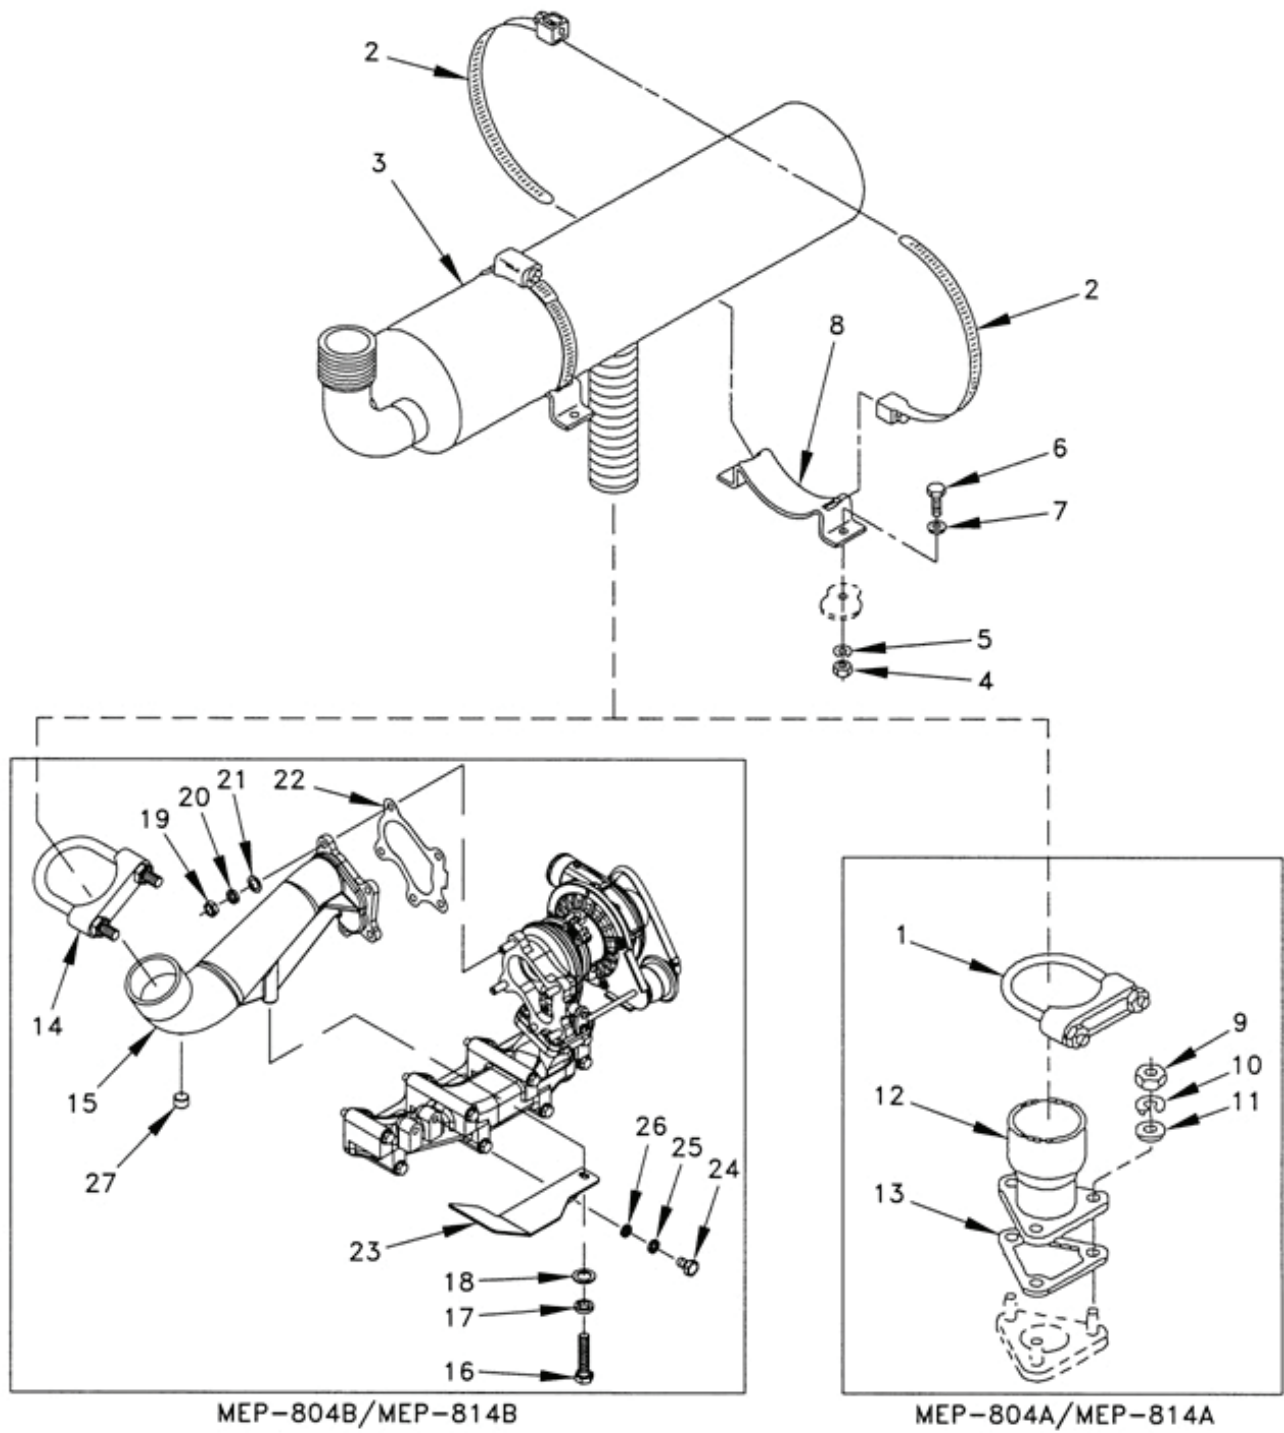

Figure 2-21. Muffler and Exhaust Pipe.
- c. Loosen nuts and remove clamp (1, Figure 2-21).
- d. Open bands (2), separate muffler (3) and exhaust and adapter (12), and remove muffler (3) from generator set.
- e. Remove nuts (4), lock washers (5), bolts (6), washers (7), and muffler supports (8). Discard lock washers (5).
- f. Remove nuts (9), lock washers (10), washers (11), exhaust adapter (12), and gasket (13). Discard lock washers (10).
- a. Install muffler supports (8, Figure 2-21) with bolts (6), nuts (4), new lock washers (5), and washers (7).
- b. Install exhaust adapter (12) and gasket (13) and secure with nuts (9), new lock washers (10), and washers (11).
- c. Couple muffler (3) to exhaust adapter (12) with clamp (1). Do not tighten clamp.
- d. Secure muffler (3) to supports (8) with bands (2).
- e. Tighten clamp (1).
- c. Loosen bolts and remove clamp (14, Figure 2-21).
- d. Open bands (2), separate muffler (3) and exhaust manifold (15), and remove muffler (3) from generator set.
- f. Remove screw (16), lock washer (17), and washer (18). Discard lock washer (17).
- g. Remove nuts (19), lock washers (20), washers (21), exhaust manifold (15), and gasket (22). Discard lock washers (20).
- h. Remove screws (24), lock washers (25), washers (26), and manifold bracket (23). Discard lock washers (25).
- i. Remove plug (27) from exhaust manifold, if necessary.
- b. Install manifold bracket (23) with screws (24), new lock washers (25), and washers (26).
- c. Install plug (27) into exhaust manifold, if necessary.
- d. Install exhaust manifold (15) and gasket (22) and secure loosely with nuts (19), new lock washers (20), and washers (21).
- e. Loosely install screw (16), new lock washer (17), and washer (18).
- f. Tighten nuts (19) and screw (16).
- g. Couple muffler (3) to exhaust manifold (15) with clamp (14). Do not tighten clamp.
- h. Secure muffler (3) to supports (8) with bands (2).
- i. Tighten clamp (14).